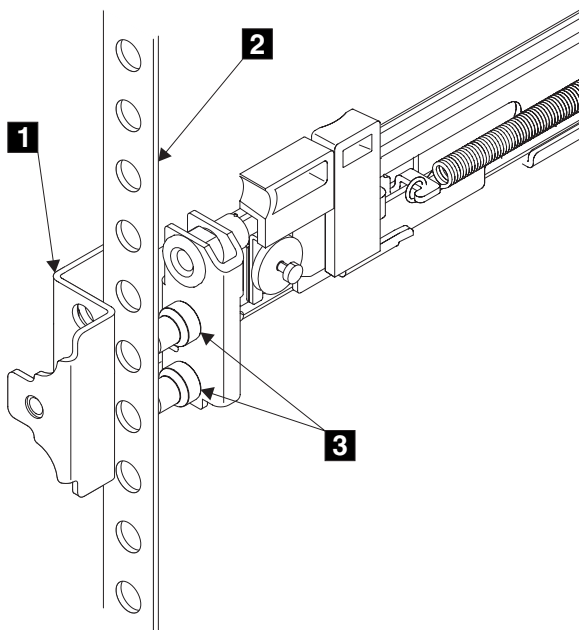

Figure 66. Installing the front end of the rail
6. Place the front end of the left rail in the rack cabinet. Align the top of the front bracket **1** (Figure 66) with the required EIA marking that is on the rack.